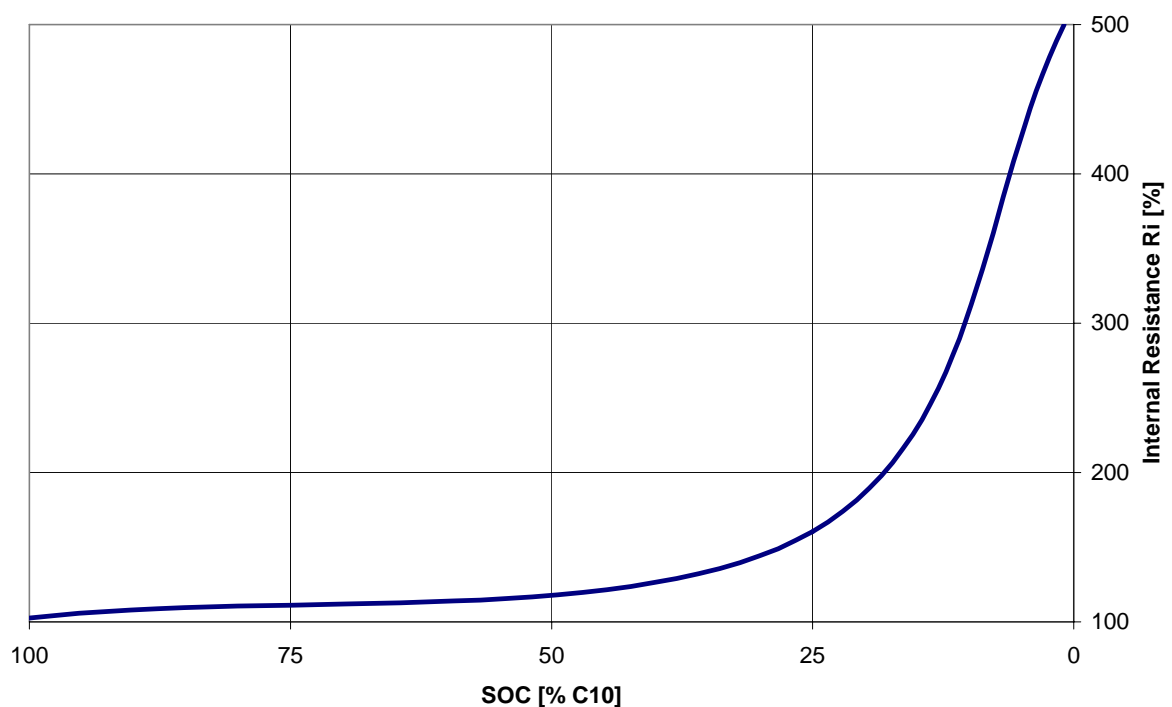

Fig. 11: Internal Resistance R_i vs. State of Charge (SOC)
- The internal resistance R_i depends on the depth of discharge (DOD), for instance, as shown in fig. 11 below. Hereby, the R_i -value at 100% state of charge (= fully charged) is the base line. The R_i -basic value can be taken from the equivalent catalogue.